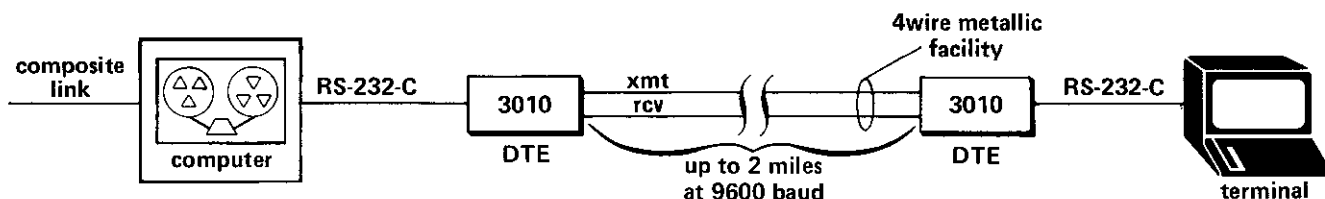
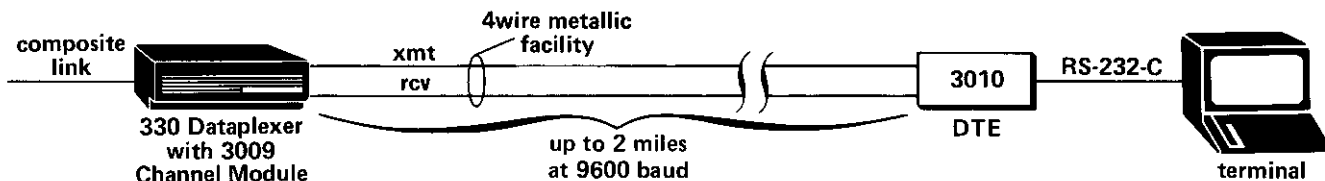
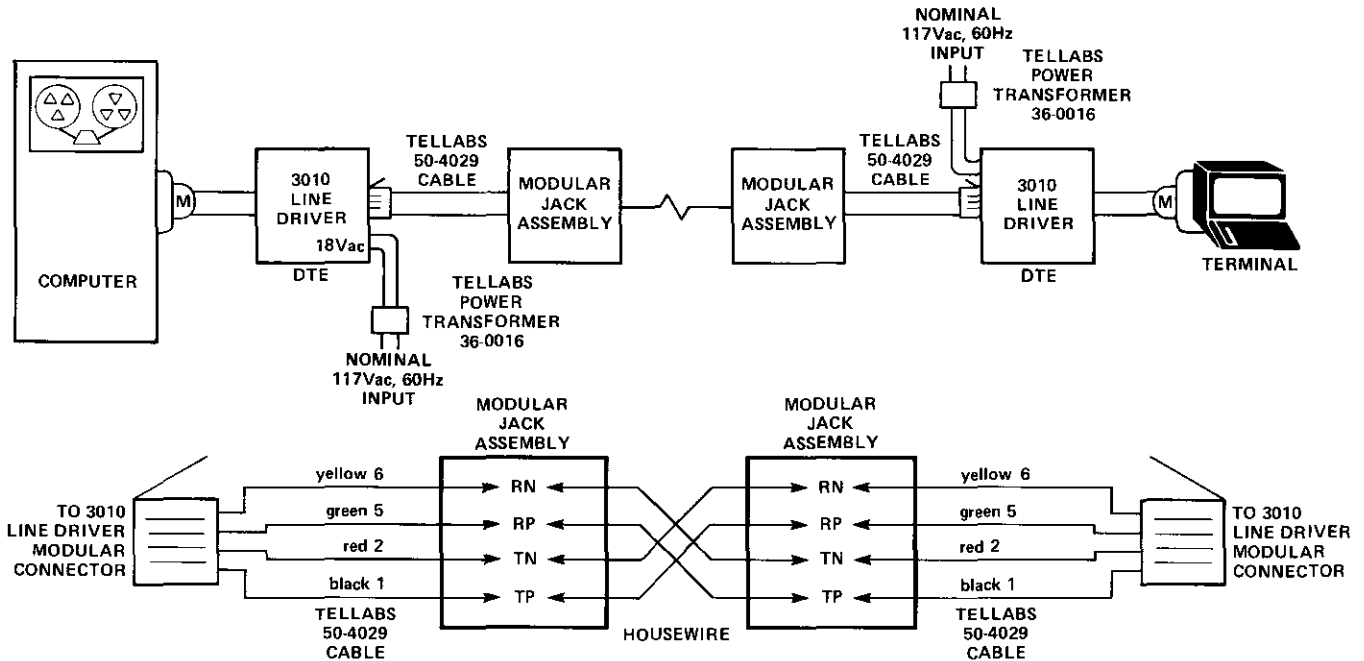
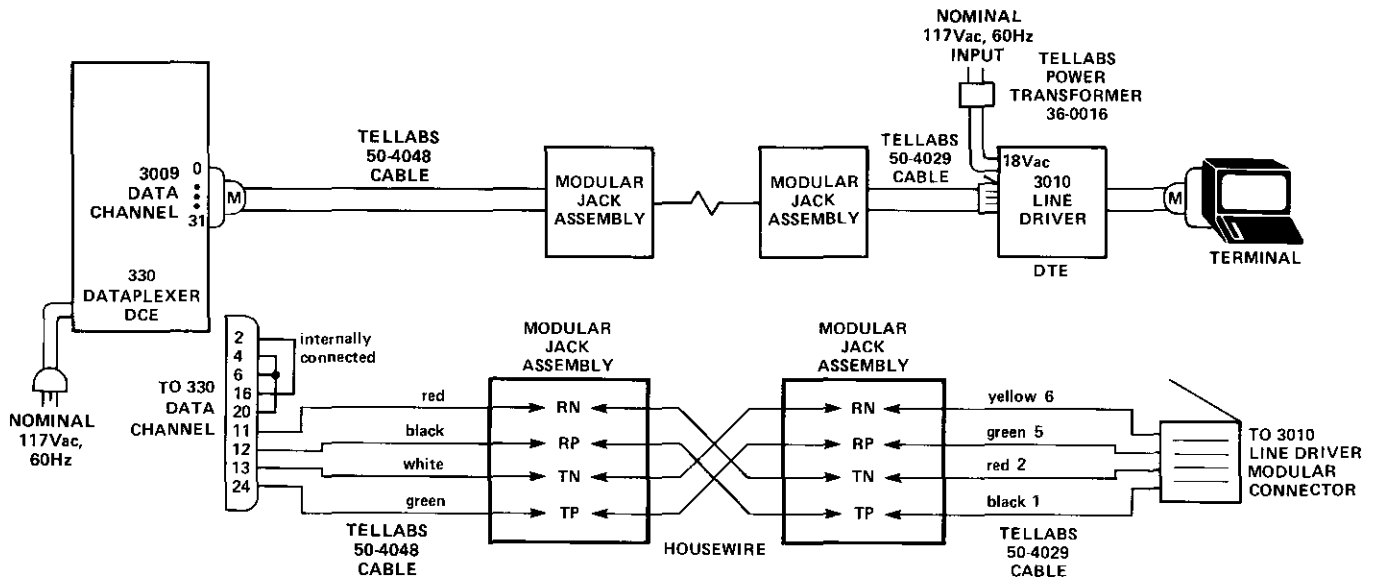

figure 2. Computer-to-terminal application
figure 3. Dataplexer-to-terminal application
figure 5. Connections for computer-to-terminal application
figure 6. Connections for Dataplexer-to-terminal application
1.03 Figure 2 shows an application where a remote terminal interfaces a computer via a 4wire facility with 3010's at each end. The 3010 at the terminal end and the 3010 at the computer end are both optioned for data-terminal-equipment (DTE) configuration. Figure 3 shows an application where a remote terminal interfaces a 330 Dataplexer equipped with a 3009 Channel Module via a 4wire facility with a 3010 at the terminal end. The 3010 at the terminal end is optioned for DTE configuration while the 3009 in the Dataplexer is optioned for 4wire facility interface by using the appropriate cable.
2.03 Figure 5 shows the required connections for the application in figure 2, while figure 6 shows the required connections for the application in figure 3. These figures can be used as installation guides for applications of the types shown.
4029) that plugs into the modular phone jack and brings the facility connections out to four spade-lug connectors. Make connections to the 4wire facility as shown in figure 5 or figure 6 (TP to RP, TN to RN, etc.).